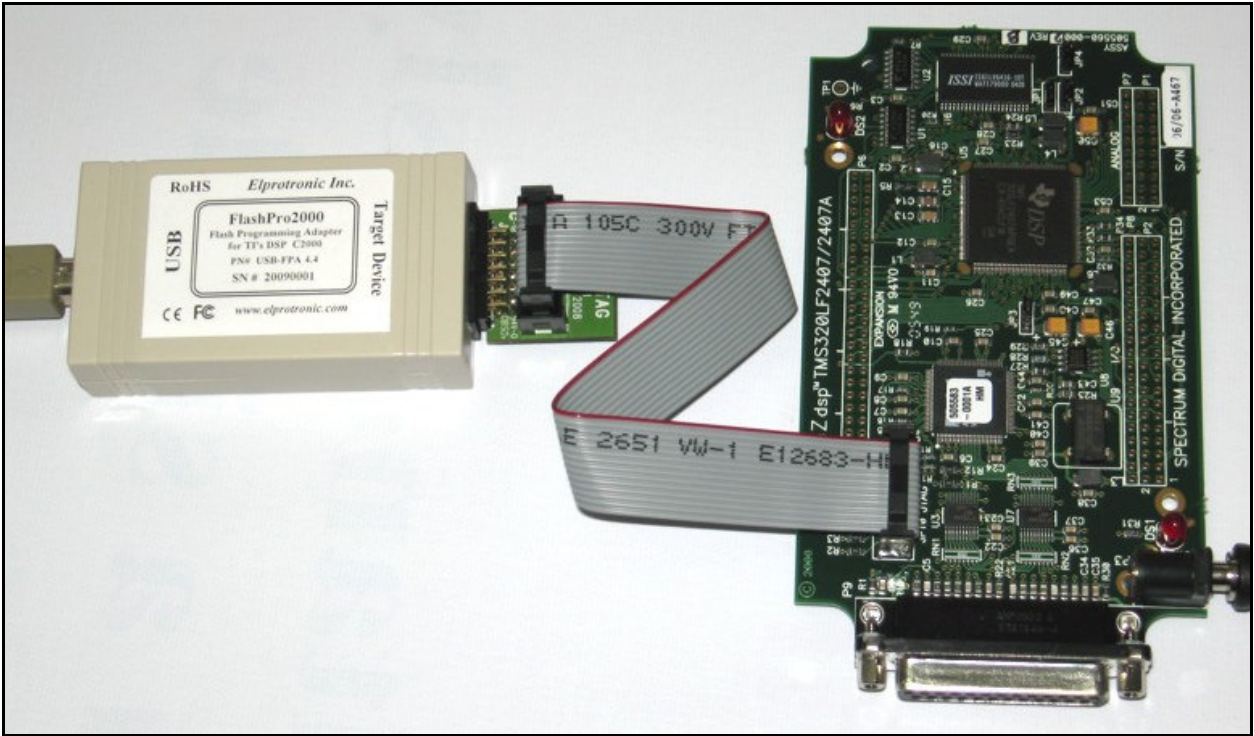

Figure 3.2-1
FlashPro2000 software support the USB-FPA versions 4.4 adapter and can communicate with target device via JTAG interface, or via SCI-BOOT interface. When the JTAG interface is used, then it should be plug-in the C2000-JTAG adapter between standard TI's JTAG connector and Programming Adapter FPA (Figure 3.2-1).
2. Plug in C2000-JTAG adapter to FPA. Plug-in 14-wires ribbon cable between C2000-JTAG Adapter and header connector on your device board (Figure 3.2-1). Make sure that pin 1 on your device board's header is connected to pin 1 of the socket connector. Pin 1 is marked as a red cable on the ribbon cable.